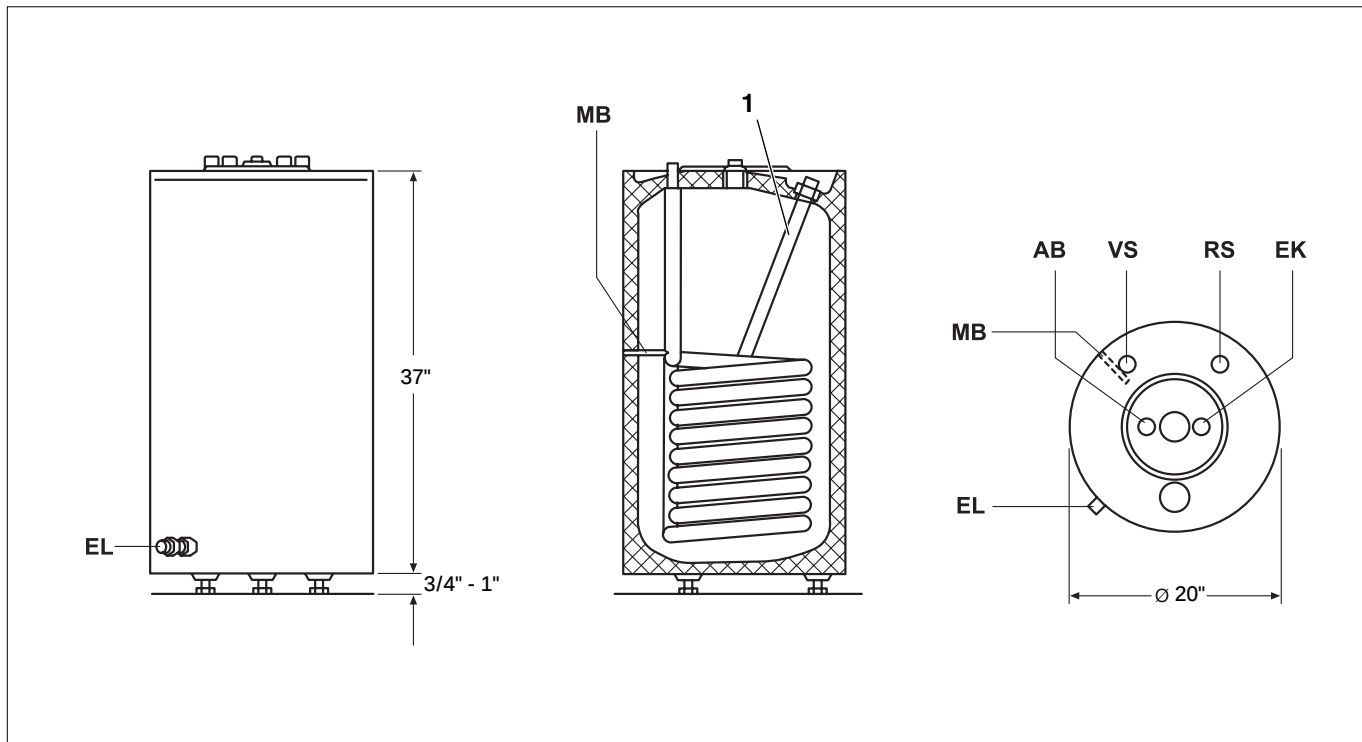

Fig. 4 Dimensions and piping connections (measurements in inches)
- Install furnished 3/4" brass couplings with teflon tape provided on other three tapings located on top of the tank. (See Fig. 4 for details)